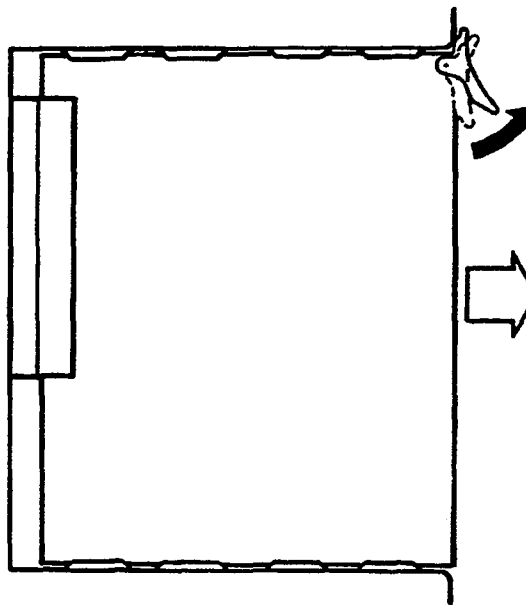

Figure 2-23 Removing a KTU from the KSU
3. The component side of all KTUs must face the left side of the KSU when installed. Ejector tabs are always on the top. Refer to Figure 2-23 - Removing a KTU from the KSU.